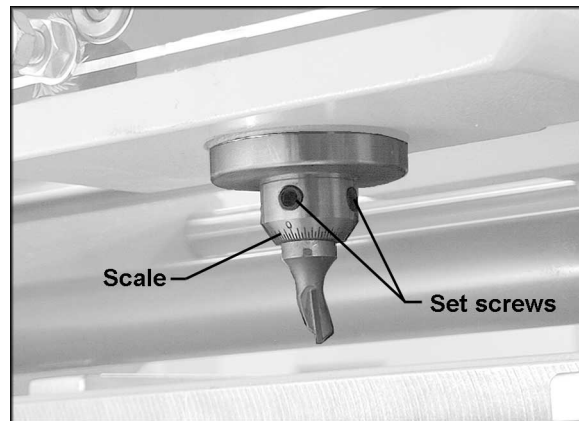

Figure 23
3. You will notice the cutter, shown in Figure 23, is slightly off center of the spindle. The spindle is eccentric and allows the cutter to be turned to a different position on the spindle.
4. Loosen both set screws on the spindle (Figure 23) by turning them counter-clockwise with a 4mm hex wrench.
To replace the cutter, loosen both set screws (Figure 23) and carefully pull down on the cutter until it is free from the spindle. Place the new cutter in the spindle and tighten both set screws.